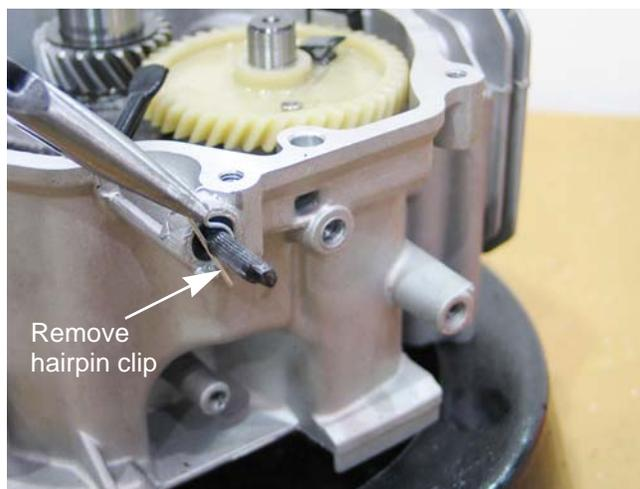

Figure 4.60
4. Remove the hair pin clip from the governor shaft. See Figure 4.60.